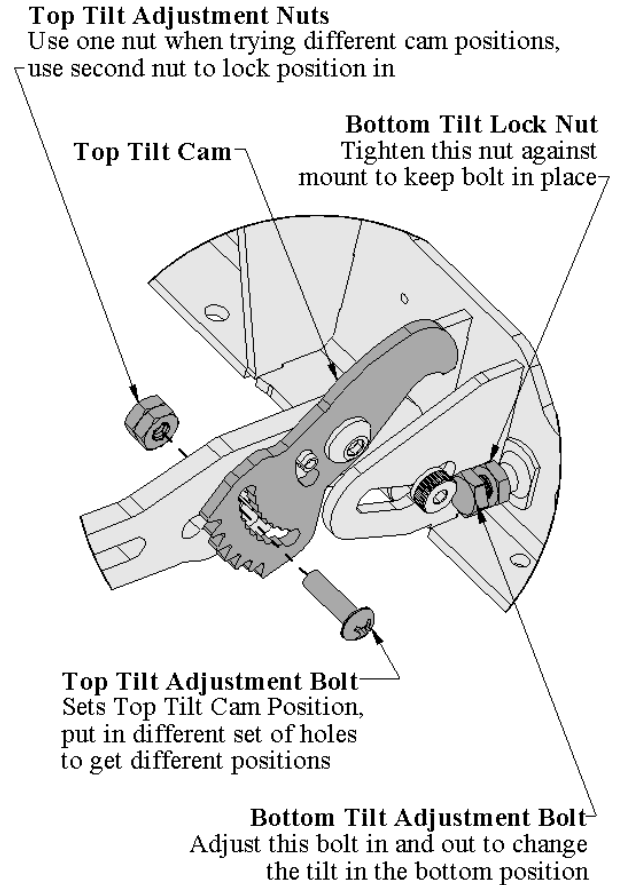

Figure 19, Tilt Adjust Hardware (Detail from Figure 2)
2. Adjust the Top Tilt Cam by removing the top Tilt Adjustment Bolt (Figure 19)